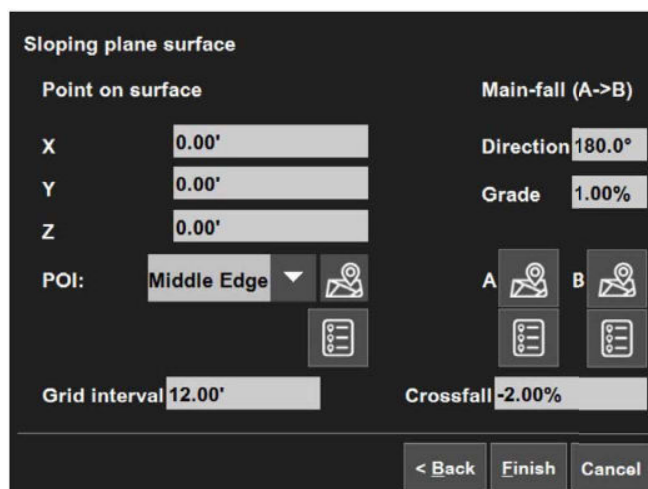

Figure 2-40: Sloping Plane Surface Screen
5. On the **Sloping Plane Surface** screen (Figure 2-40), enter the direction and mainfall grade in one of three ways: